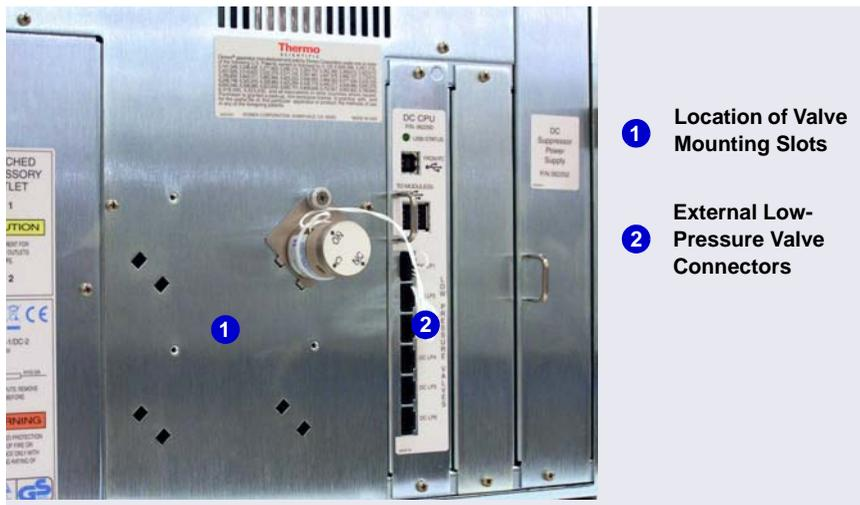

Figure B-19. DC Rear Panel: External Low-Pressure Valve Connections
1. Insert the two tabs on the valve mounting plate into available slots on the DC rear panel (see Figure B-19) or EO regulator stand bracket.
3. Plug the valve into one of the low-pressure valve connectors on the DC rear panel (see Figure B-19). Plumb the valve as required.
3. Route the valve cable to the back of the DC, through the slot on the side of the module. Connect the cable to one of the low-pressure valve connectors on the DC rear panel (see Figure B-19).